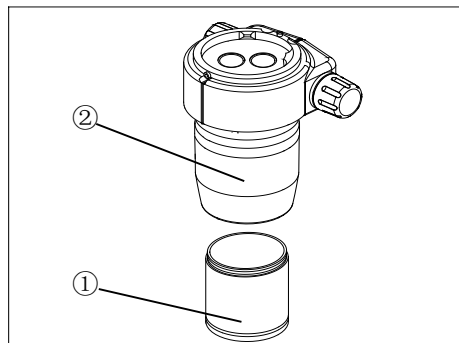
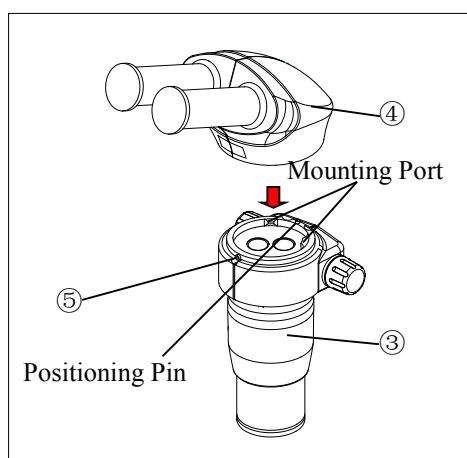

Fig.1
Fig.2
2.2.1. Mounting binocular viewing head (Fig.1, Fig.2)
1. Rotate the objective (1) into the objective mount thread on the lower end of the zoom body (2), as (3) in fig.2.
2. Aligning the positioning pin of the zoom body (3) to the positioning groove on the binocular viewing head (4), insert the dovetail mount at the bottom of the viewing head into the mounting port on the zoom body (3), and tighten the viewing head clamping screw (5) with provided hexagonal driver.